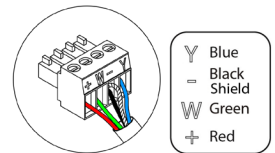

Fig. 16
- ④ It has a 4-pin terminal to connect the thermostat . Attach the wires with the terminal screws following the color code (Fig. 16).